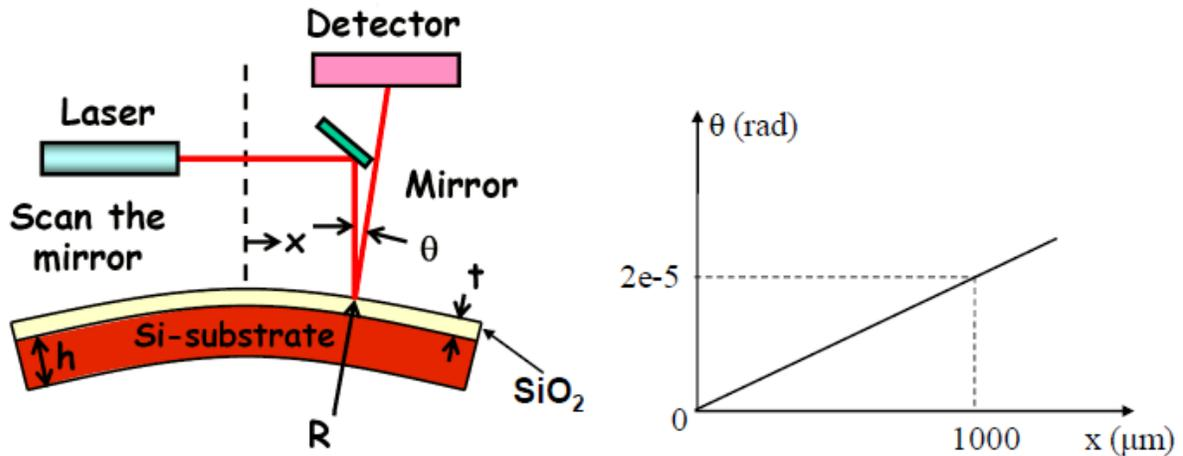

Fig. PS3.1
1. In the Berkeley Nanolab, a tool called the Flexus can be used to determine the stress on a thin film deposited on a silicon wafer by measuring the wafer curvature. Fig. PS3.1 below presents a schematic illustration of the Flexus and its measurement mechanism, together with a typical measured result. As shown, the Flexus simply measures the angle between the wafer surface and a laser beam directed straight down, allowing one to extract the slope of the ensuing θ vs. x curve.
Suppose the measured curve shown in Fig. PS3.1 is for a 1 μm silicon dioxide deposited on a 4" 525 μm -thick bare silicon wafer at 400°C.